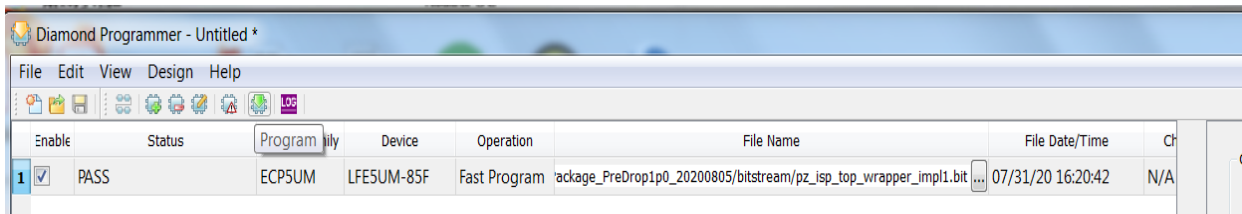

Figure 4.4. ECP5 Programming Setup
7. Select **ECP5UM** for Device Family, **LFE5UM-85F** for Device, **Fast Program** for Operation, and **mVision_ISP_1080p_impl1.bit** for File Name as shown in Figure 4.4.